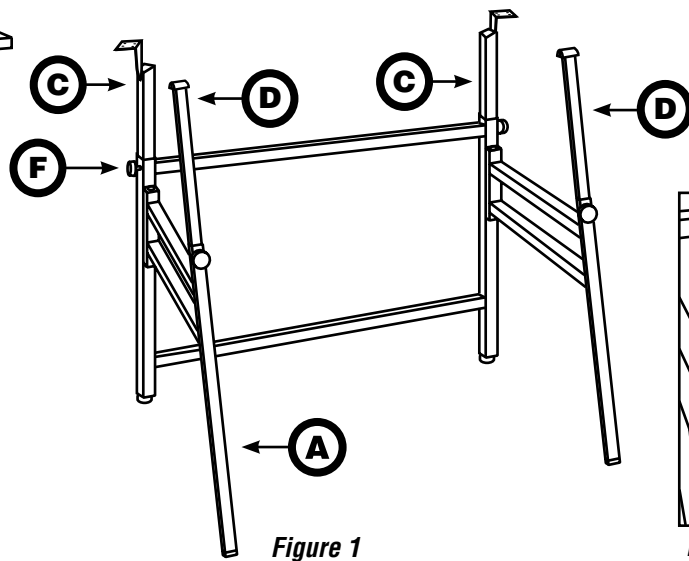

Figure 1
- 1** Unfold leg frame (**A**). Insert rear extension tubes (**C**) into back tubes of leg frame with mounting brackets facing out. Slide tubes in as far as they will go and then loosely hand-tighten height adjustment knobs (**F**). See **Figure 1**.
- 2** Insert front extension tubes (**D**) into front tubes of leg frame with the curved black caps facing front and back. See **Figures 1 & 2**. Set each tube at a height of approximately 4" and then loosely hand-tighten height adjustment knobs.